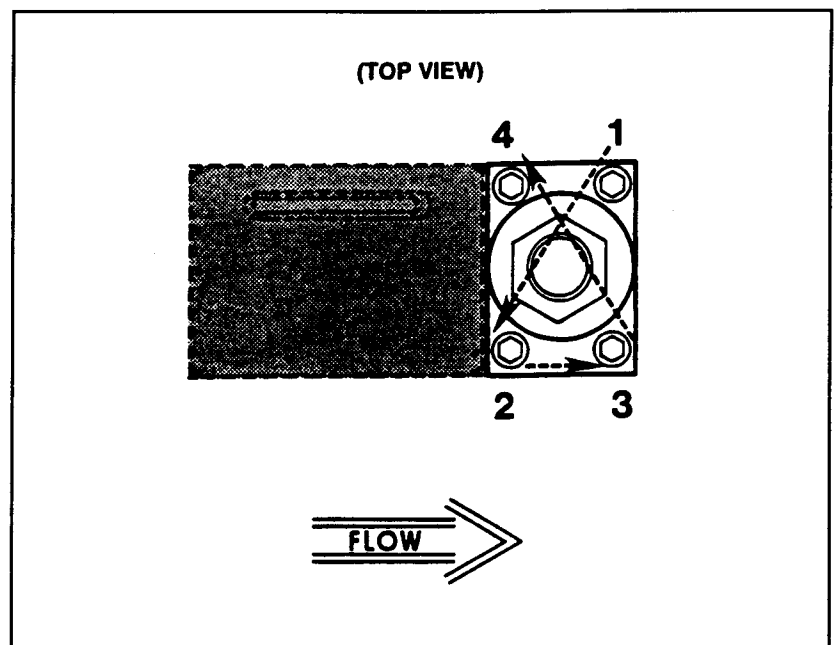

Figure 4-1. Torque Sequence for the Valve Retainer Plate
3. Press the lubricated sensor O-rings (17) into the flow controller body (14). Install the sensor assembly and secure with two screws (18) and washers (19) tightened to 15 in/lbs.
4. Install the orifice (12) and its O-ring (13), using a 3/8 nut driver. Insure that the orifice is fully seated, but do not overtighten.
5. Insert the valve preload spacers (10), if used, into the valve cavity in the flow controller body (14). Use care to preserve the correct order.
6. Place the spacers (9) and springs (8) on the valve seat (11) in the same order as noted in Step 8 of the disassembly. Screw the valve seat (11) into the plunger (7). Tighten the assembly until there is no looseness, but do not overtighten.
7. Install the valve plunger assembly (7, 8, 9 and 11) on the preload spacers (10). Install air gap spacers (10), if used, on top of the valve springs.
8. Install the valve stem assembly (6). Secure with the valve retaining plate (4) and four hex socket screws (3). When installing the screws, they should first make light contact with the plate. Check the plate to insure that it makes full contact around the stem assembly. Torque the screws securing the valve retaining plate in a diagonal pattern (refer to Figure 4-1) to 15 in/lbs.
9. Install the coil assembly (2) over the valve stem assembly (6) and secure with jam nut (1).
10. Install the printed circuit (PC) board (15), secure with the bracket (24) and two screws. Plug the connector from the sensor assembly onto the PC Board. The flow arrow on the connector should be pointing toward the valve assembly.
11. Install the electronics cover (23) on the controller. Secure with three screws (20). Plug the connector from the valve coil into the PC Board through the hole in the electronics cover.